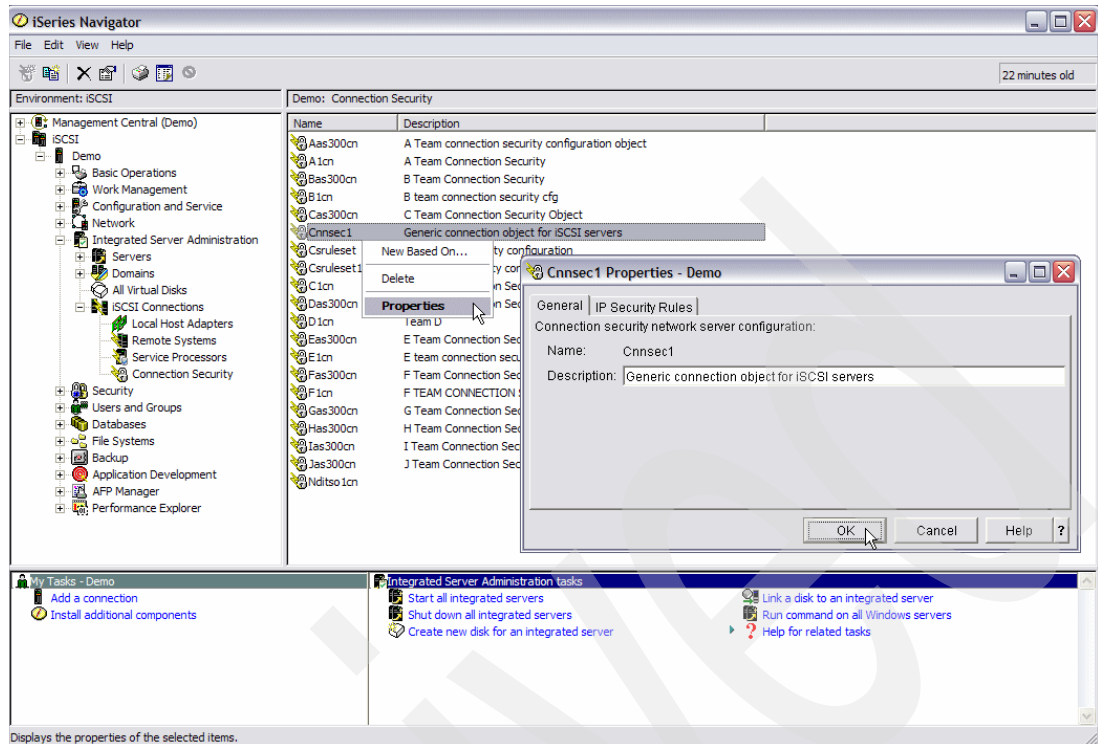

Figure 6-56 Properties CNNSEC in iSeries Navigator
- Expand **YourSystem** → **Integrated Server Administration** → **iSCSI Connections**. See Figure 6-56 on page 204.